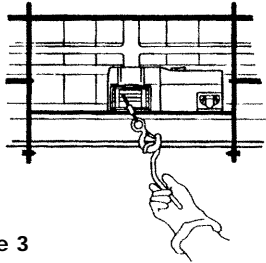

Figure 3
7. NEVER WINCH WITH LESS THAN 5 TURNS of wire rope AROUND THE WINCH DRUM since the wire rope end fastener will NOT withstand a load. ALWAYS USE THE HANDSAVER BAR when guiding the wire rope in or out (see Figure 3).